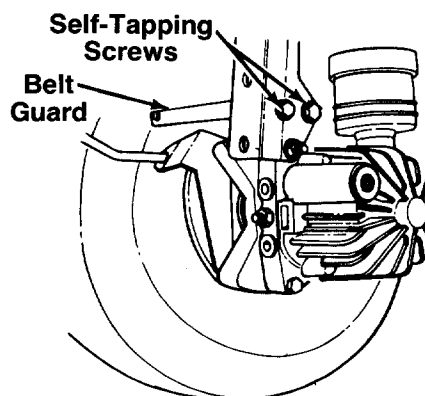

FIGURE 23.
5. Remove the rear belt guard at the transmission pulley by removing the two self-tapping screws shown in figure 23.